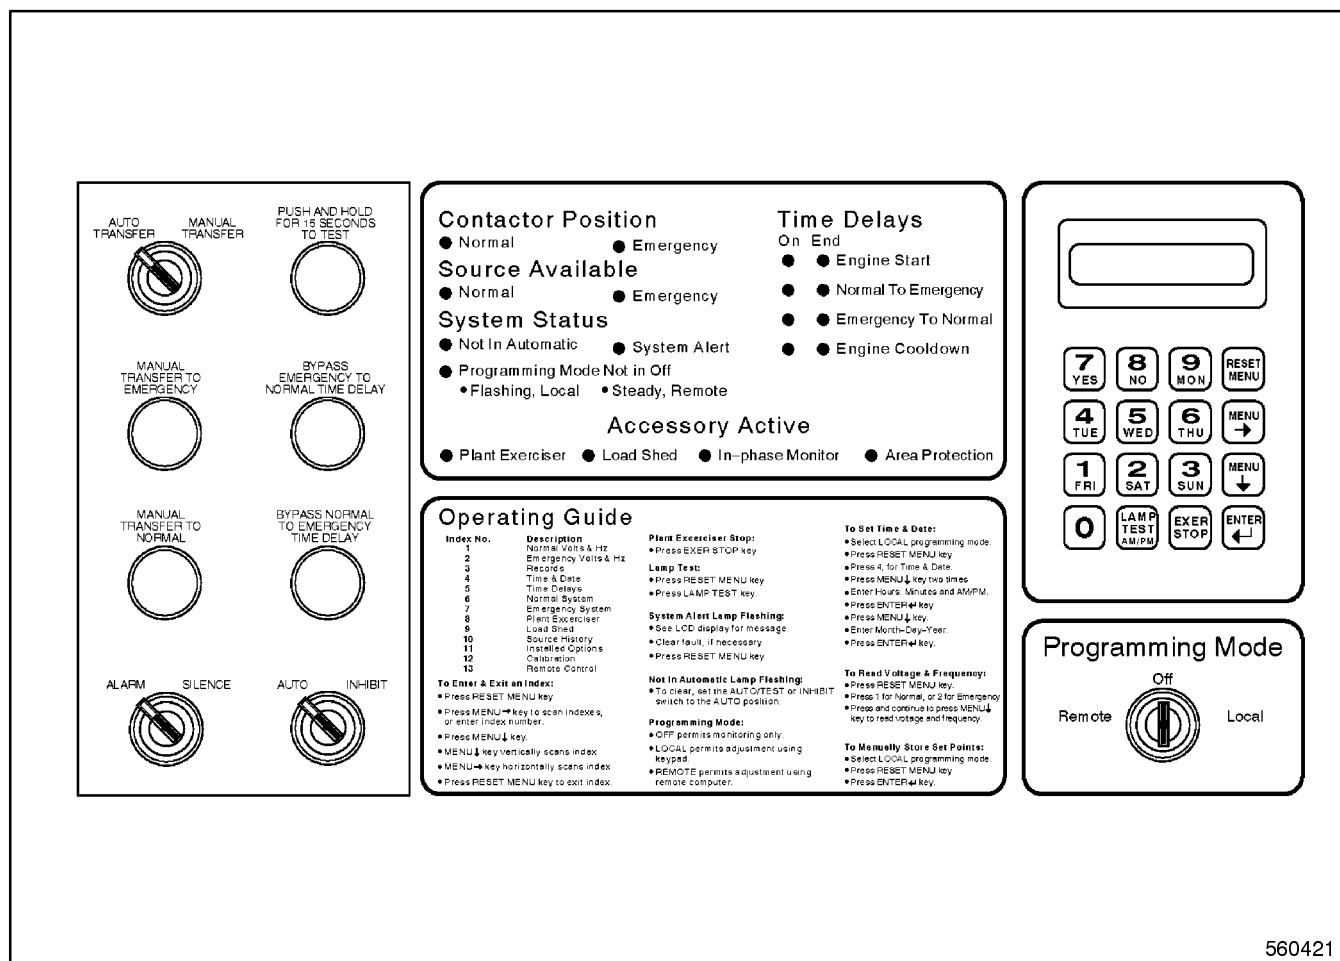

Figure 2-1. Front Panel
on the options chosen. See Figure 2-1 for LED, Switch, and Key locations.
1. Press and hold the test pushbutton for 15 seconds. See Figure 2-1.
For location of pushbuttons, switches, LEDs, and keys referred to in this section, see Figure 2-1. Refer to Figure 3-1 as a guide to troubleshooting problems with